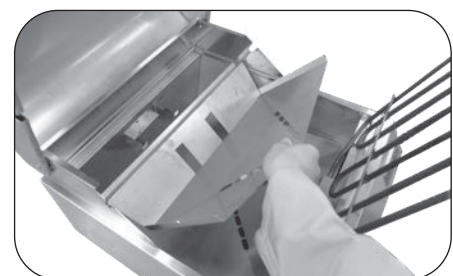

Fig. 22-4 Remove rear liner
5. Lift the rear liner slightly up to clear the support tab, then forward and out (Fig. 22-4).